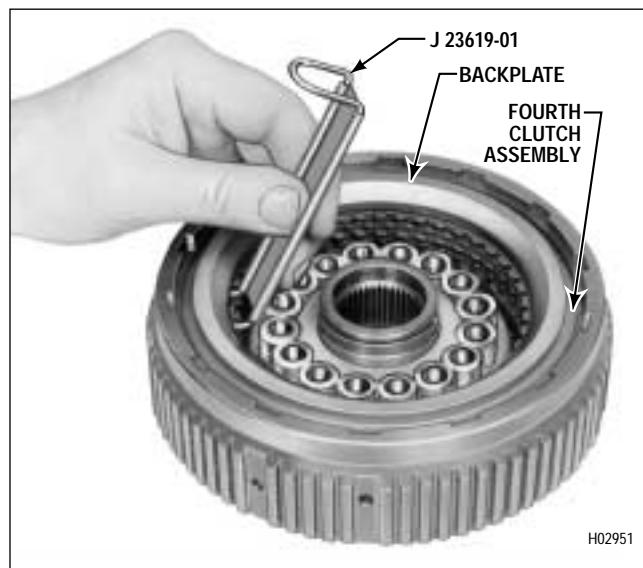

Figure 6-44. Checking Fourth Clutch Clearance
- Two methods of establishing proper clutch clearance are explained and illustrated. The first method, Steps (1) through (6), is by direct measurement using a go/no-go gauge. The second method is by stack dimension computation (Paragraph 6-17). This method may be more convenient when assembly line overhaul practices are used.
(1) Install the piston, without sealings, into the clutch housing assembly until the piston bottoms against the housing.
(2) Beginning with an external-tanged plate, alternately install five external-tanged clutch plates 4 (Foldout 9,A) and five internal-splined clutch plates 3 onto piston 8.
(3) Install clutch backplate 2, flat side first, onto the last clutch plate 3 installed. Install snapring 1 into housing 13.
(4) While holding backplate 2 firmly against snapring 1, use clutch clearance gauge J 23619-01 to measure the clearance between the backplate and the clutch plate (Figure 6-44). The smaller end of the gauge must insert between the backplate and the first clutch plate. The larger end must not.